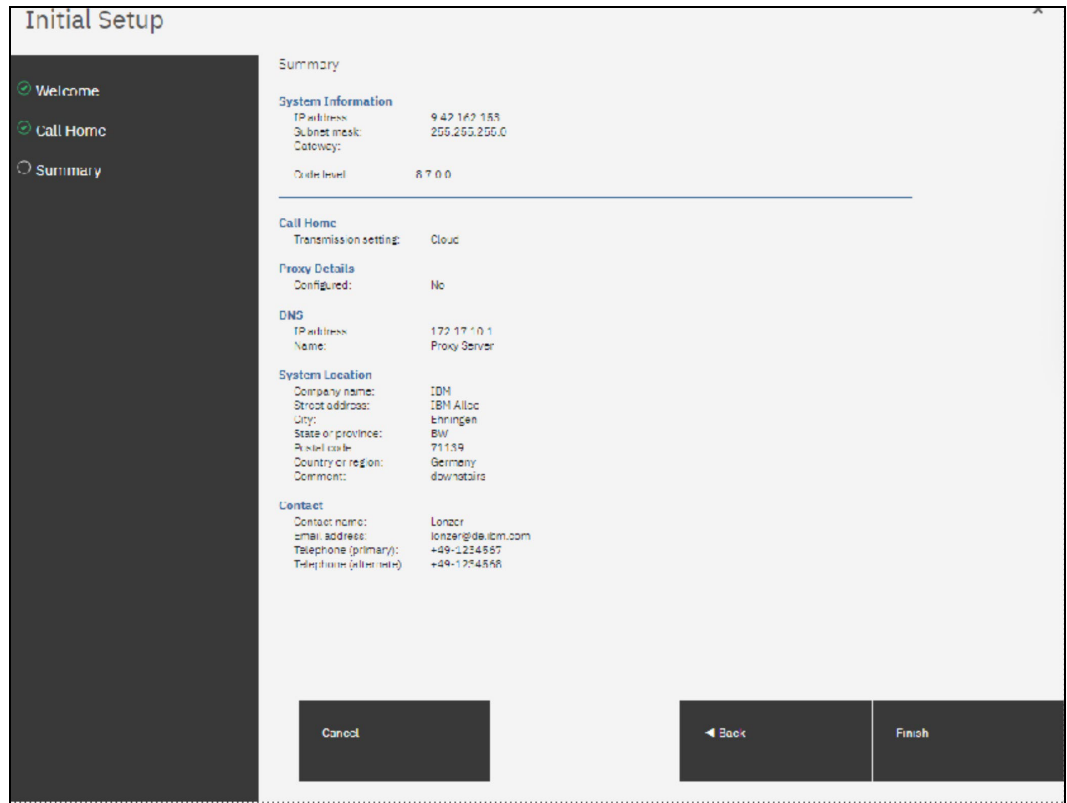

Figure 2-23 Summary page
9. The System provides you the Summary information. If all is correct click **Finish**. See Figure 2-23 on page 34.